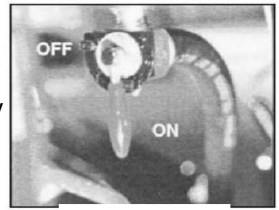

Figure 2
1. Make sure that the shut off valve, located at the bottom of the fuel tank is in the "ON" position (figure 2).